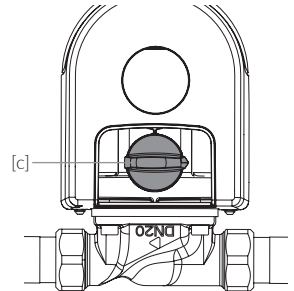

Fig. 8.3
- / Fig. 8.3: The manual shut-off is closed.